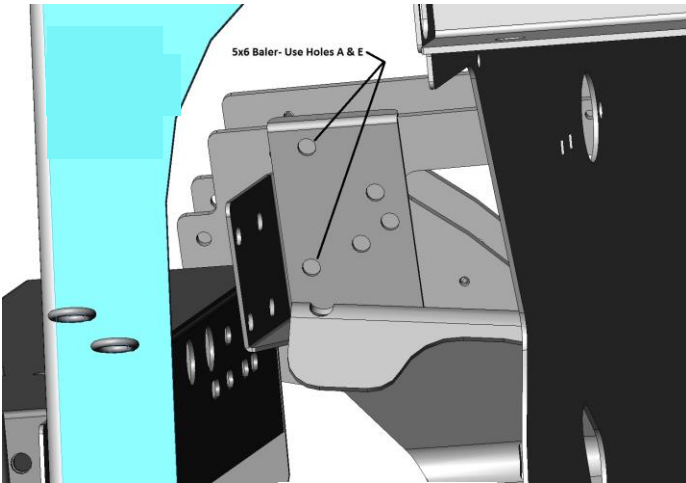

Figure 28
- If your baler is not equipped with bale shaping pads you will need to drill a hole in the chamber directly behind and above the starting roll. (Figure 28)